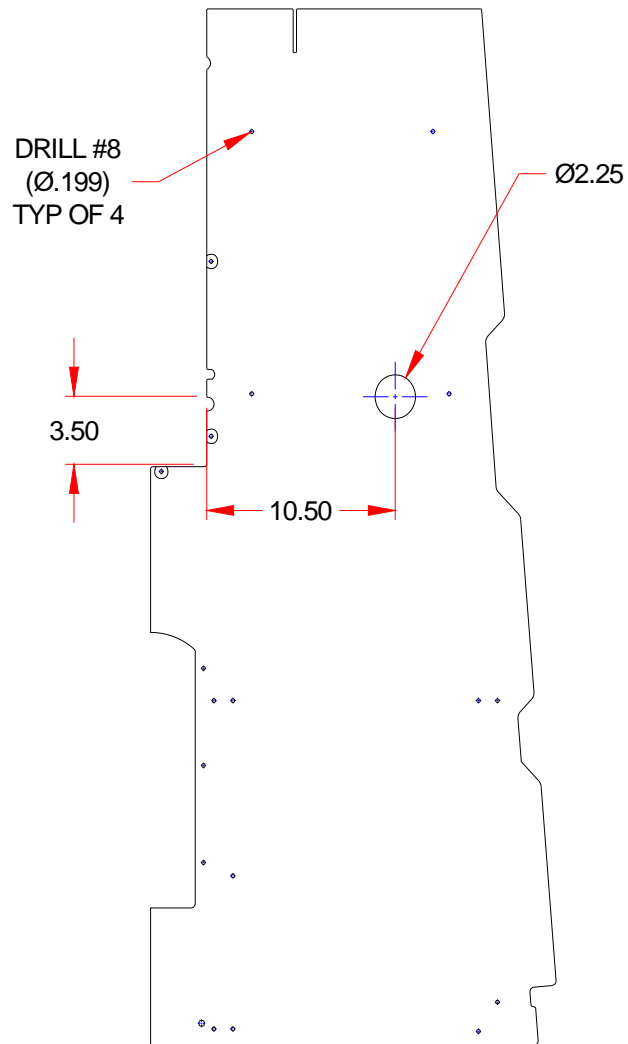

Figure 2 Co-Pilot Floor Board
5. Determine the location for Co-Pilot's floor board access hole according to measurements provided in Figure 2 as measured from the right-aft corner of the console.